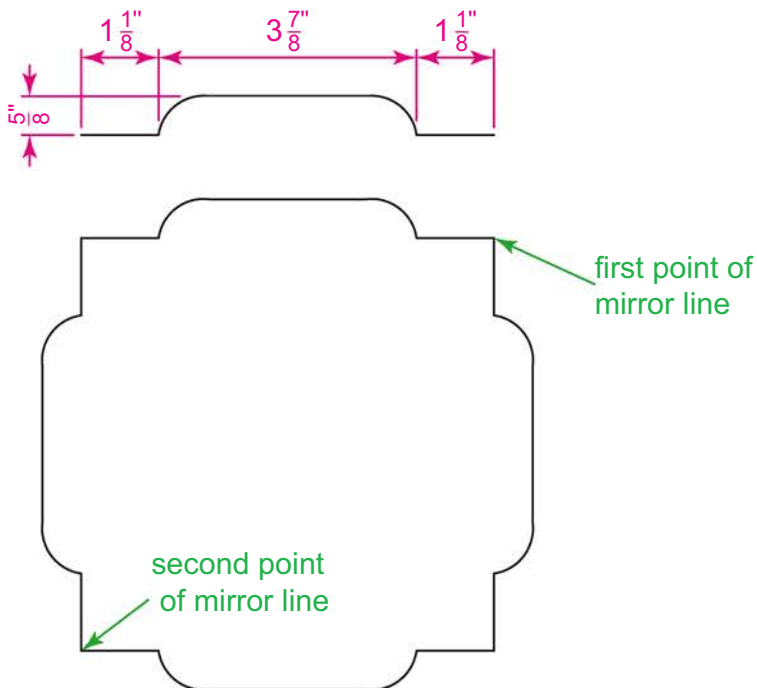

Fig. 6.10 Second example – Mirror
SECOND EXAMPLE – MIRROR (FIG. 6.10)
1. Construct the outline shown in the dimensioned polyline in the upper drawing of Fig. 6.10.
2. Call **Mirror** and, using the tool three times, complete the given outline. The two points shown in Fig. 6.10 are to mirror the right-hand side of the outline.